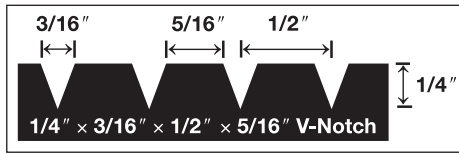

Figure 2
- 1/4" x 1/2" x 3/16" (6 mm x 13 mm x 8 mm) V-Notch trowel (Figure 2)